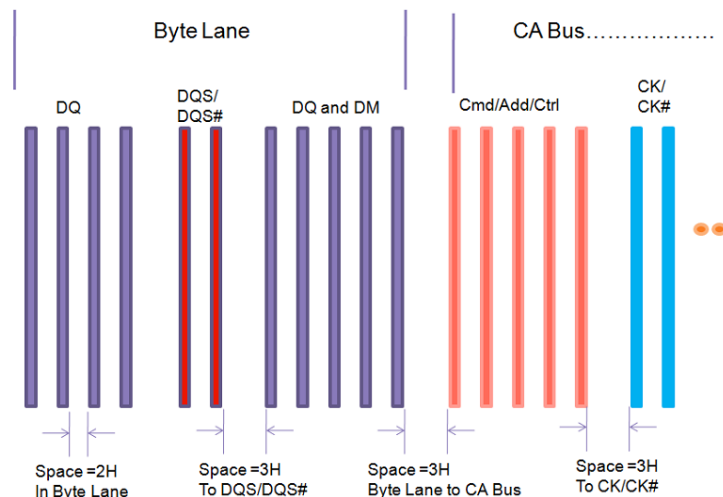

Figure 4-5 Spacing between Different Signal Groups
- The crosstalk and characteristic impedance of an array of traces are interrelated. In order to minimize crosstalk, the characteristic impedance of a trace should be determined predominantly by the distance to the reference plane and not the distance to the neighboring traces. To achieve this, the space between traces should be twice the height of the trace above the ground plane. Figure 4-5 show the recommended spacing (“H” means the height from reference plane.).
- VREF is used as a reference by the input buffers of the DDR3 memories. It is recommended to be 1/2 of the DDR3 power supply voltage and should be created using a resistive divider as shown in the schematic. Other methods are not recommended. Figure 4-5 shows the layout guidelines for VREF.